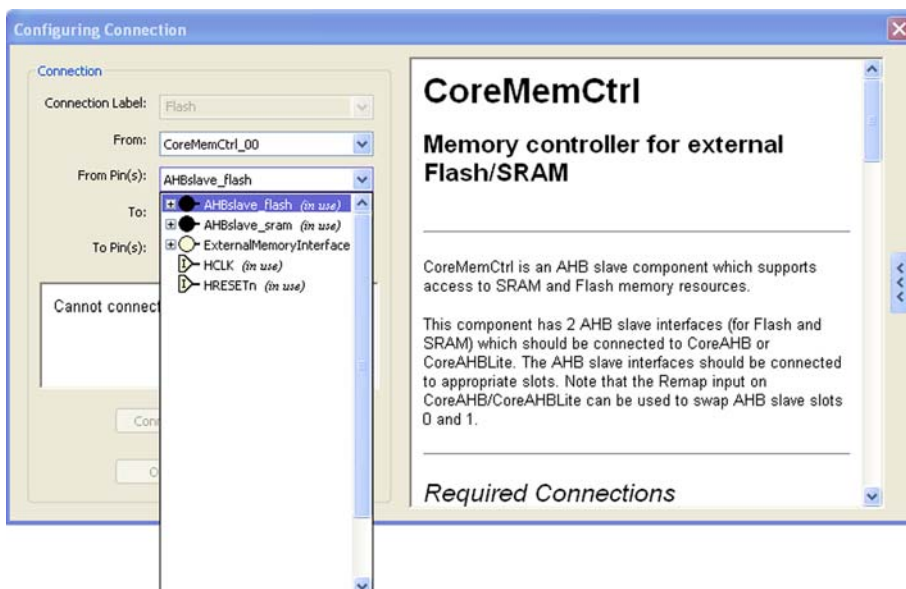

Figure 5-9. Selecting the CoreMemCtrl ExternalMemoryInterface Pins
11. From the Configuring Connection dialog box, select **ExternalMemoryInterface** in the **From Pin(s)** drop-down menu, as shown in Figure 5-9.